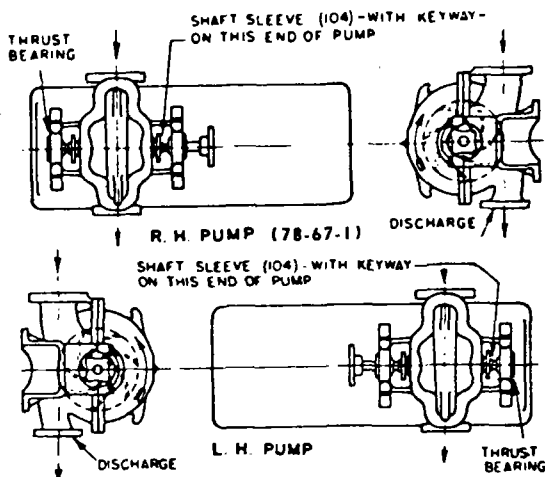

Fig. 20
1. Check shaft to see that it is not bent or otherwise damaged, and that it is also smooth and clean. Inspect "O" Rings (412 and 412A). Replace if damaged. Position "O" Rings (412) inside shaft sleeves as shown in the sectional assembly, page 16.
2. Determine the correct setting of the impeller and sleeves on the shaft in relation to the rotation of the pump. To do this, face the discharge flange of pump. The locking shaft sleeve must be on the right as shown in Fig. 20 and the impeller must rotate in correct relation to the casing as shown in the end views in Fig. 20.